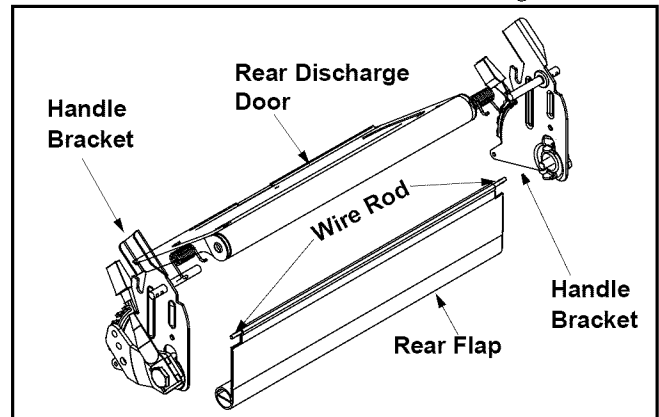

Figure 17
- To remove rear flap, cut off the flat end of the wire rod which secures it to the deck. See Figure 17 .